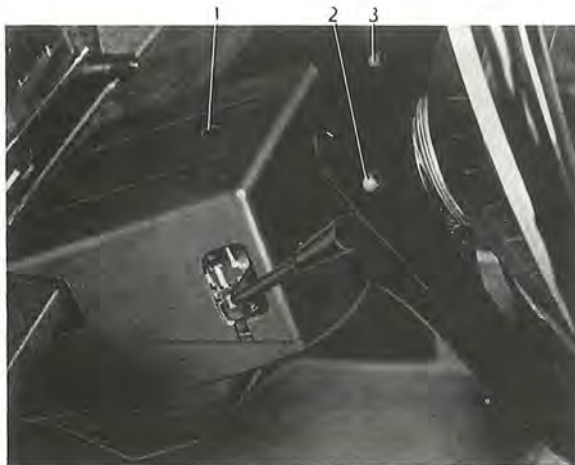

Fig. 6-39 Attaching screws
1. Remove the screws (1, Fig. 6-39) for the upper part of the directional indicator switch housing and the three attaching screws for the lower part. Lift off the housing.
3. Connect the cable contact and fit the horn ring so that the holes come opposite the attaching screws. Fit the screws (2 and 3, Fig. 6-39). Check the function of the horn ring.